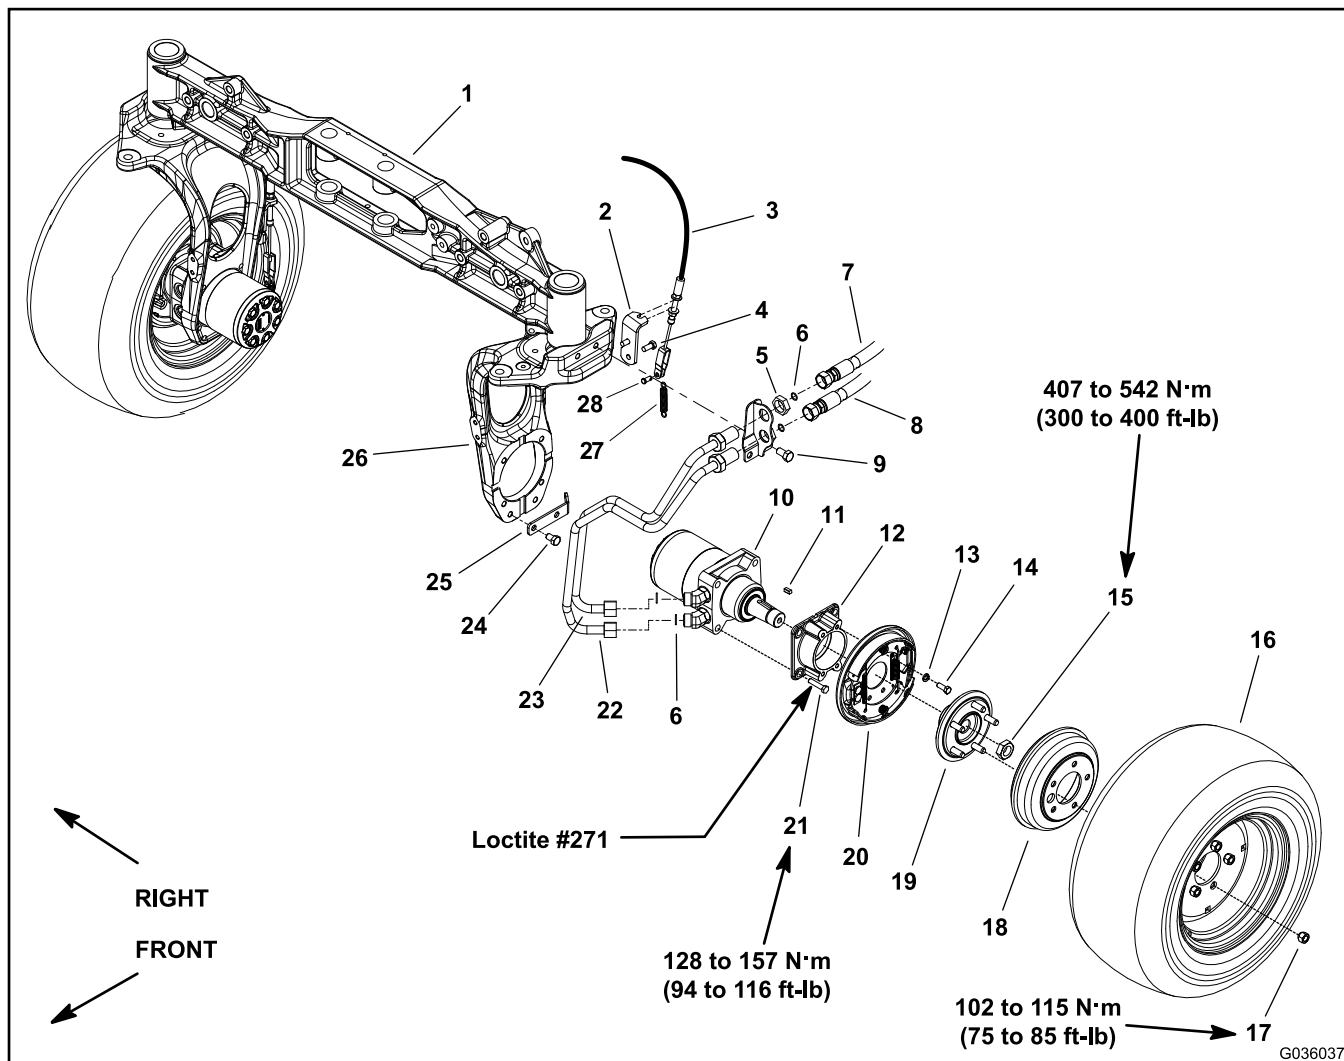

Figure 64
2. Loosen, but do not remove the locknut (item 15 in Figure 64) that secures the wheel hub to the wheel motor. Also, loosen the wheel-lug nuts.
4. Remove the rear wheel assembly (item 16 in Figure 64), brake drum, wheel hub, and brake assembly from the machine; refer to Servicing the Brake \(page 6–15\).
9. Remove the 4 bolts (item 21 in Figure 64) that secure the wheel motor to the steering fork.
7. Install the brake assembly (item 20 in Figure 64), wheel hub, brake drum, and rear wheel assembly to the machine; refer to Servicing the Brake (page 6–15).
9. Torque the locknut (item 15 in Figure 64) to **407 to 542 N·m (300 to 400 ft-lb)**. Also, ensure to torque all the wheel-lug nuts to **102 to 115 N·m (75 to 85 ft-lb)** in a crossing pattern.
9. Install the wheel spacer (item 11 in Figure 64), wheel assembly to the machine; refer to Installing the Wheel (page 6–14).